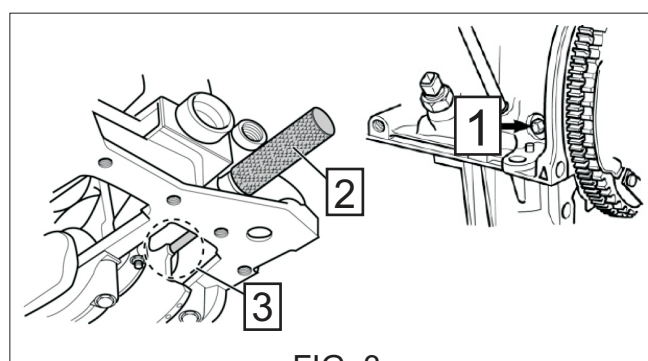

FIG. 3
- 3 Remove engine block bolt (1) [FIG. 3] and fit the lock pin to crankshaft (2) [FIG. 3], making sure that the crankshaft abuts the lock pin (3) [FIG. 3].
- ⑥ Dismount specific tool to camshafts (1) [FIG. 1] and the lock pin to crankshaft (2) [FIG. 3].